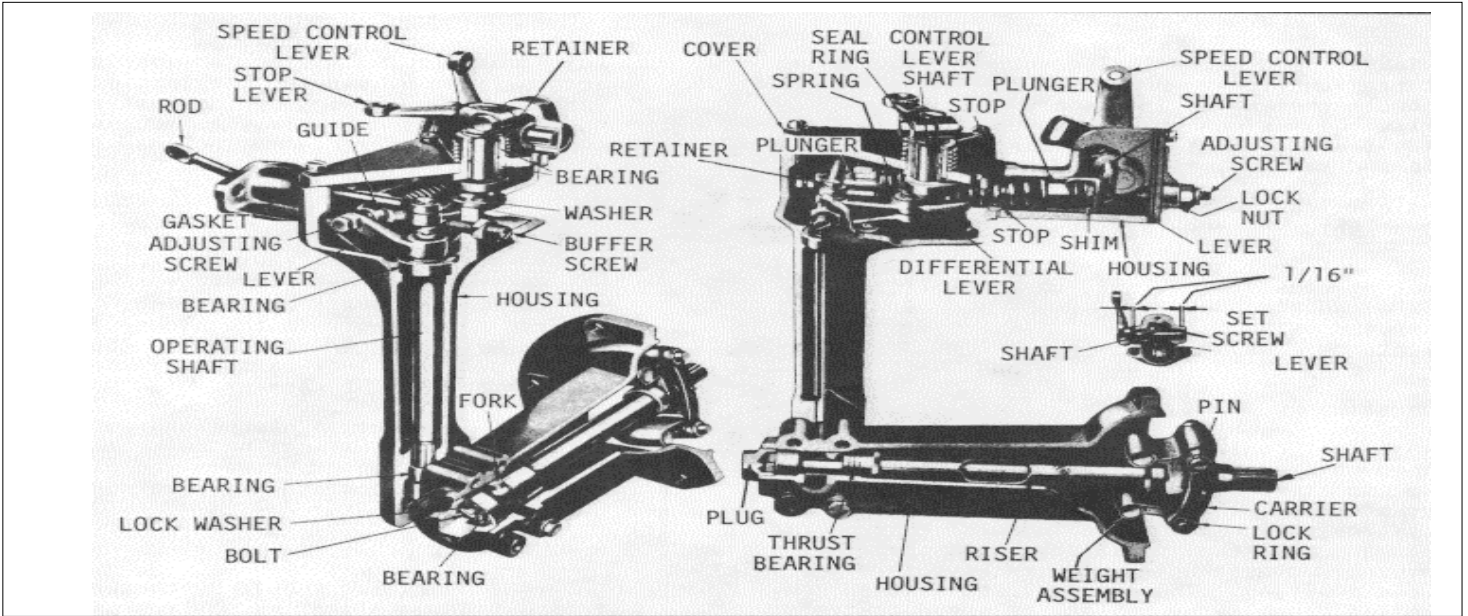

Fig. 1
- (2) Remove the breather tube.
- (3) Remove the four cover screws and lift the governor cover, with the stop lever and retraction spring and cover gasket from the governor housing.
- (4) Refer to Figs. 1 and 2 and disconnect the fuel rod from the differential lever and injector control tube lever.
- (5) Disconnect the oil tube at the governor weight housing, or cover.
- (6) Remove the two governor-to-cylinder head bolts.
- (7) Remove the control housing from the cylinder head and weight housing.
- (8) Use wrench J 4242 and remove the six governor weight housing-to-blower bolts, then withdraw the housing from the blower.